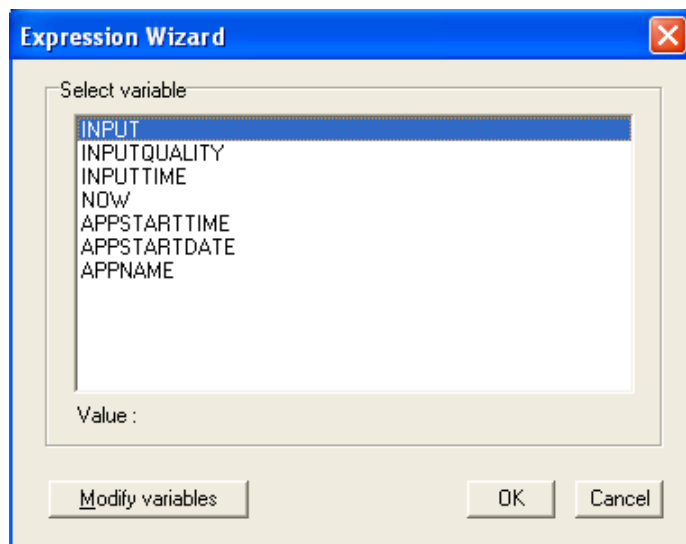

Figure 35 - Select Variable Window
11. Click on the **Variable** button to go to the **Select variable** (Figure 35) window. After selecting the required variable, click on the **OK** button to close the **Select variable** window and return to the **Expression Wizard**.